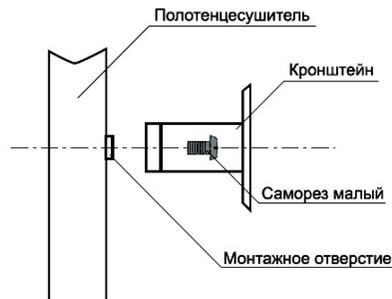

Рис. 2
- Drill the holes for wall brackets and connection box (see figure 2).